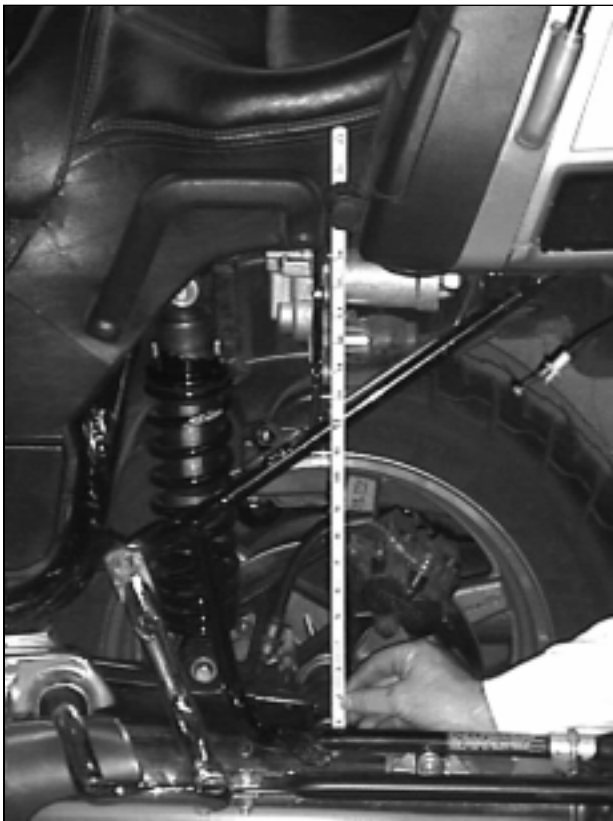

Figure 3
6. Ride height: Adjust your air pressure to achieve the proper amount of sag. It will use a lower air pressure than the stock system because your 450 series shock has a higher rate coil spring which allows greater load capacity with less air pressure. With the motorcycle on the centerstand (with the rear off the ground) , measure the distance from the center of the rear axle to a point vertical on the frame (see figure 3). Now take the bike off the centerstand, load the motorcycle with the rider, passenger, luggage, accessories and trailer (if any) and re-measure the same points. With the motorcycle loaded, this measurement should decrease by approximately 1" to 1 1/2 ". Add or subtract air pressure to reach this recommended ride height.